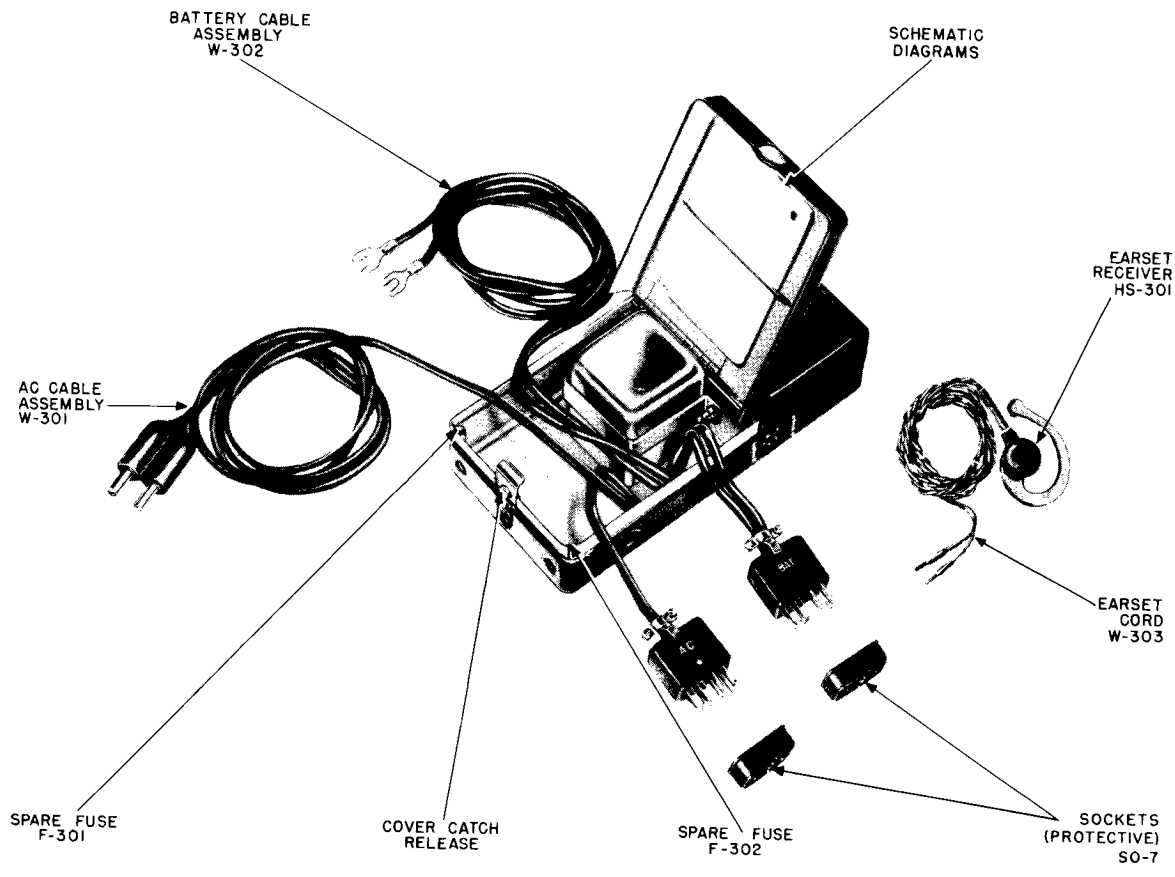

Figure 2. Filter-Accessory Unit RA-6 opened, showing accessories.
(4) Provides storage space for accessories and power cables. See Figure 2.